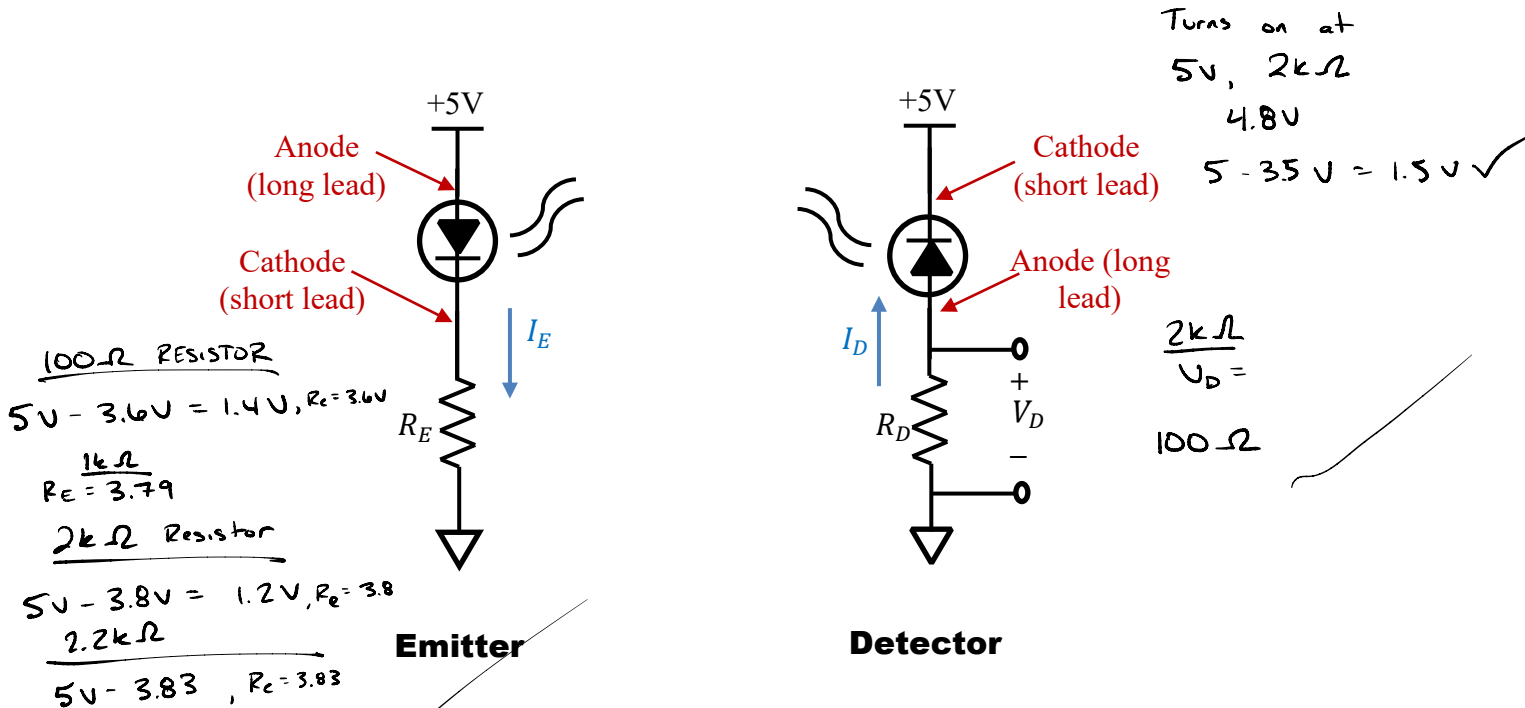
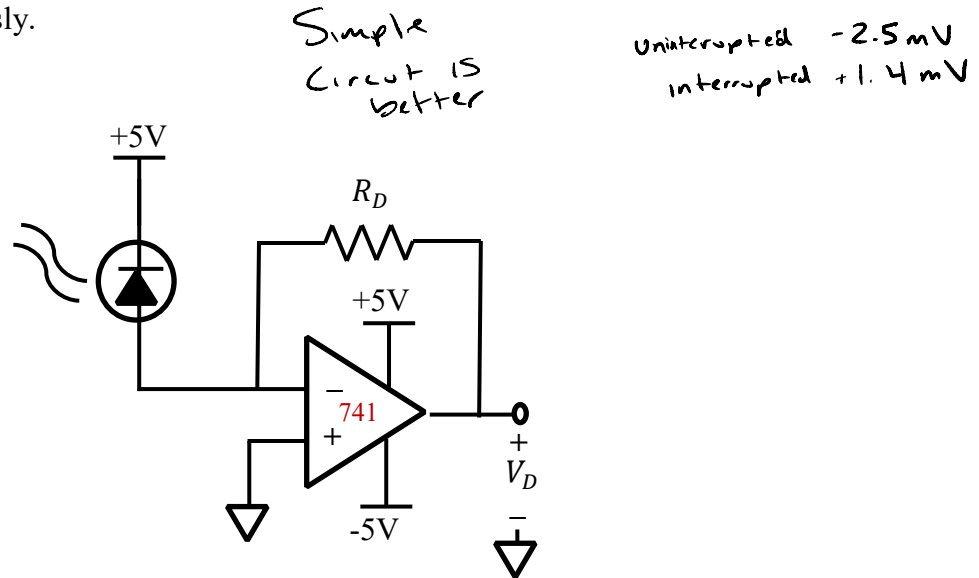

Figure 4.9 – Emitter and Detector Circuit
Figure 4.11 – An Op-amp based detector circuit.
First, assemble the emitter using the simple circuit shown in the left of Figure 4.9. The purpose of the resistor is to limit the current so as not to damage the emitter. Since the emitter is rated at a maximum continuous forward current of 50mA, the resistor, R_E , should be at least 100 Ω (assuming a +5V supply voltage, if you use a larger value, the resistor value must be increased accordingly). In order to avoid the danger of burning out your emitter, it might be a good idea to design your emitter circuit (choose resistor values) to produce a current that is safely less than 50mA (maybe something in the 10-30mA range). Measure the voltages across both the resistor and the IR emitter for several different values of R_E . You should be able to infer the current flowing through the emitter I_E from the voltage measured across the resistor. In your lab report, provide a plot of I_E vs. R_E .
Next assemble the detector circuit as shown on the right in Figure 4.9. The resistor in this circuit is playing a completely different role. As long as there is a sufficient bias voltage across the photo
Finally, consider the op-amp based detector circuit shown in Figure 4.11. Try implementing this circuit for your detector. In your lab report, explain how this is better/worse than the simple resistor we used previously.
- Provide plots characterizing the operation of the detector circuits (both the one in Figure 4.9(b) and the one in Figure 4.11).